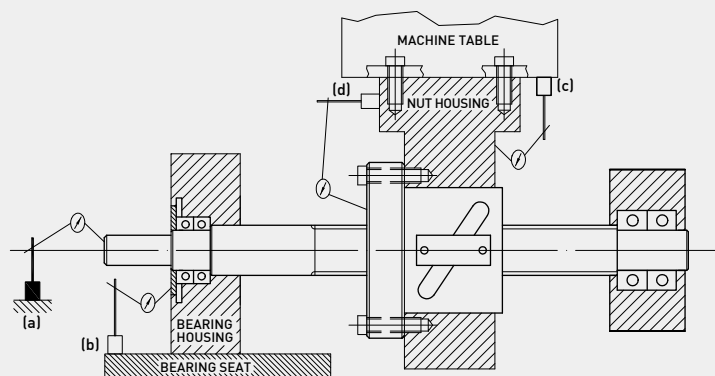

Fig. A-4 Locating the Cause of an Abnormal Backlash
The ball-nut-mounted housing or the bearing-mounted housing may deflect under components' weight or machining load if it is not rigid enough. The test illustrated in Fig A-4 (d) can be used to check the rigidity of the ball-nut-mounted housing. Similar test can be used to check the rigidity of the bearing-mounted housing.
1. Glue a gauge ball in the center hole at one end of the screw spindle. Use the flat plate of a dial indicator to check the axial movement of this gauge ball in axial direction while rotating the screw spindle (Fig A-4(a)). The movement should not exceed 0.003mm (0.00012 in), if the bearing hub, the ball nut, and the ball nut housing are all installed properly.
2. Use a dial indicator to check the relative movement between the bearing housing and the bearing seat while rotating the ballscrew (Fig A-4(b)). Any dial indicator reading other than zero indicates that either the bearing hub is not rigid enough or it is not installed properly.
3. Check the relative movement between the machine table and the ball nut housing (Fig A-4(c)).
4. Check the relative movement between the ball nut housing and the ball nut flange (Fig A-4(d)).